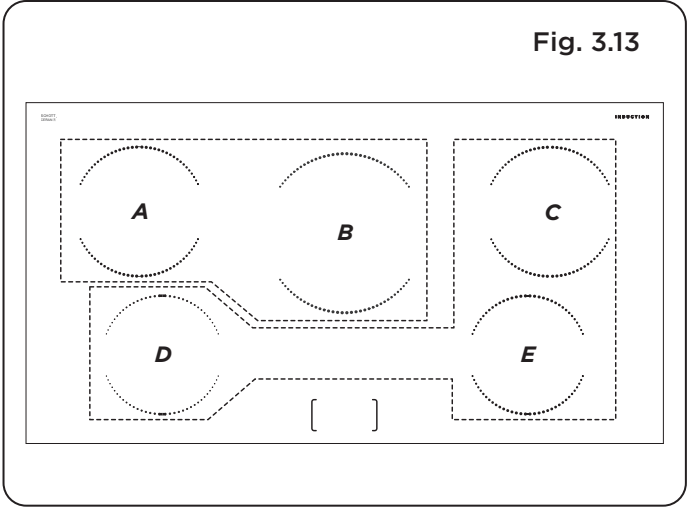

Fig. 3.14
- **Note:** The griddle should comprise of an induction friendly, flat bottom, large enough to cover zones A and B of the hotplate heating area (Fig. 3.14).